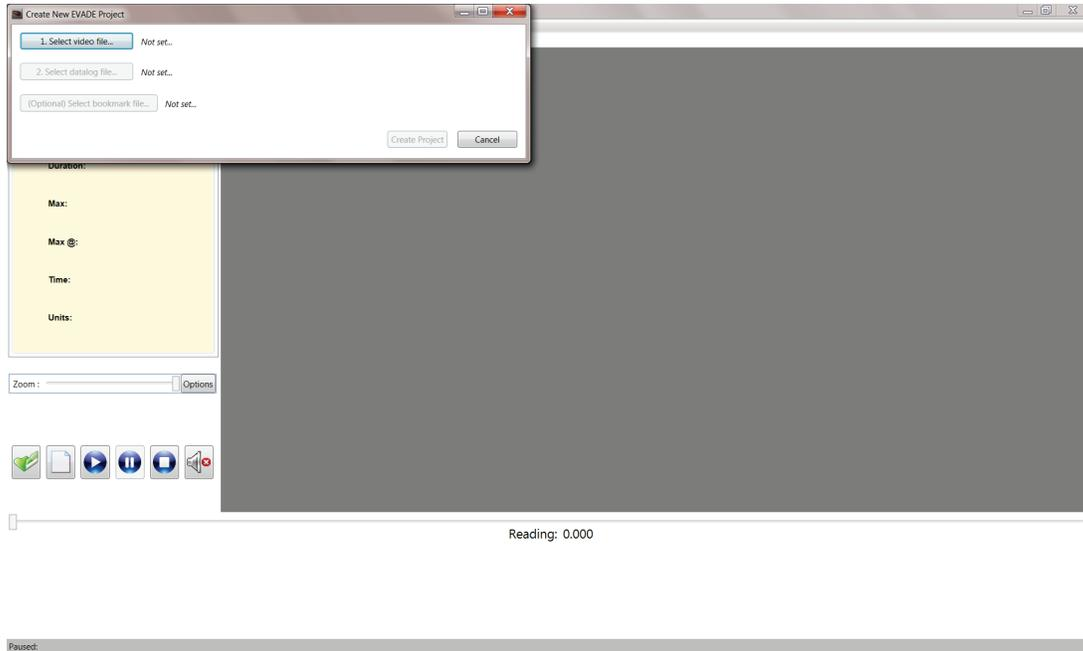

Figure 23. The Create New EVADE Project dialog box which opens when the New Project command is selected from the File menu.
1. Click on the **New Project** option from the File menu to open the **Create New EVADE Project** dialog box which is used to locate and associate the video, datalog, and bookmark files required to conduct a new dust exposure analysis (Figure 23). This dialog box contains three selection buttons, **Select video file...**, **Select datalog file...**, and **(Optional) Select bookmark file...**, each of which prompts the user for a specific action. The user is guided through the selection process via highlighted selection buttons. For example, in Figure 23 the user is prompted to select a video file, which is the first step. Clicking **Cancel** terminates the **Create New EVADE Project** process.